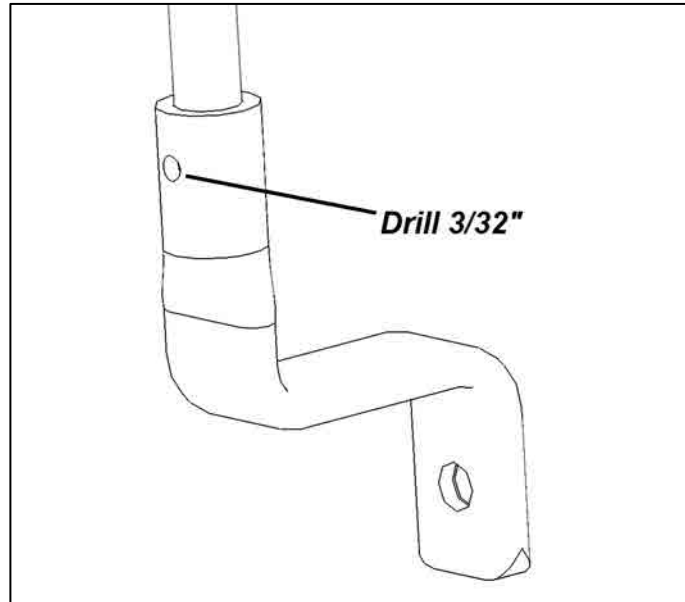

Figure 4: Location A, D and E
- 4) Once the support is secured, drill 3/32" through aluminum rod using the existing hole as drilling guide (Fig. 4).